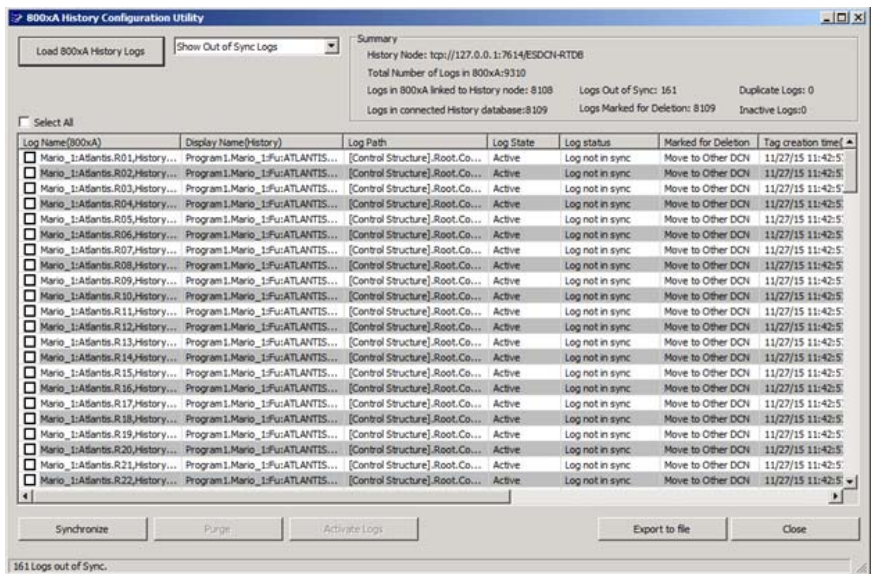

Figure 226. History Configuration Utility
2. Select the **Show Out Of Sync Logs** as shown in the Figure 226: